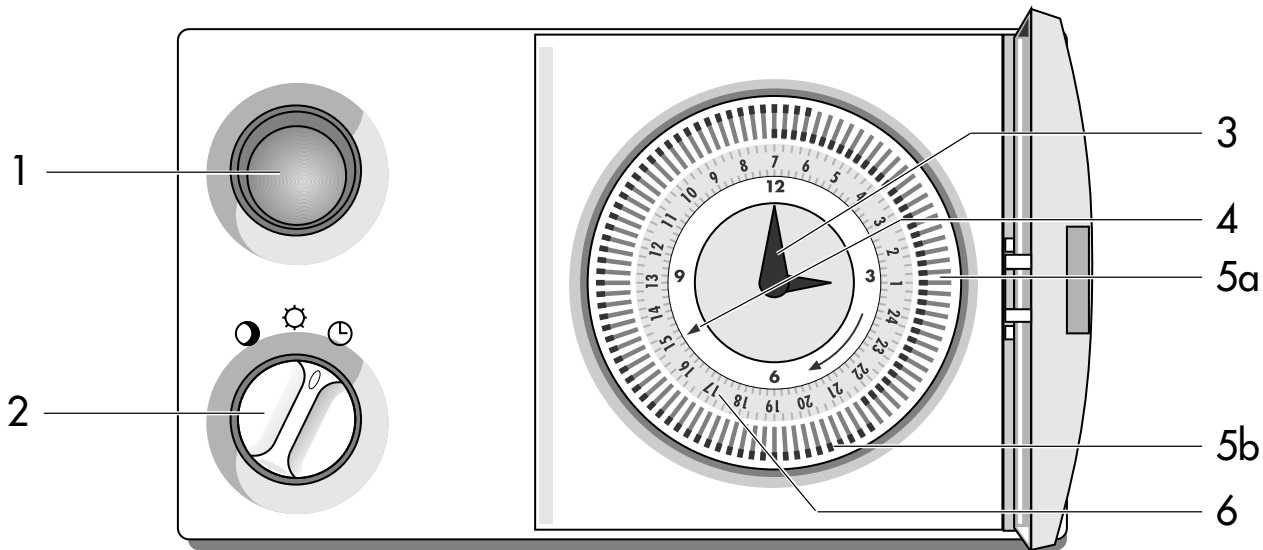

Fig. 1:
int Fig. 1
Indicates the time of day e.g. Fig. 1 "15.00"
With the operating mode switch fig. 1 (2), you can adapt the operating mode of your heating system according to your personal needs.